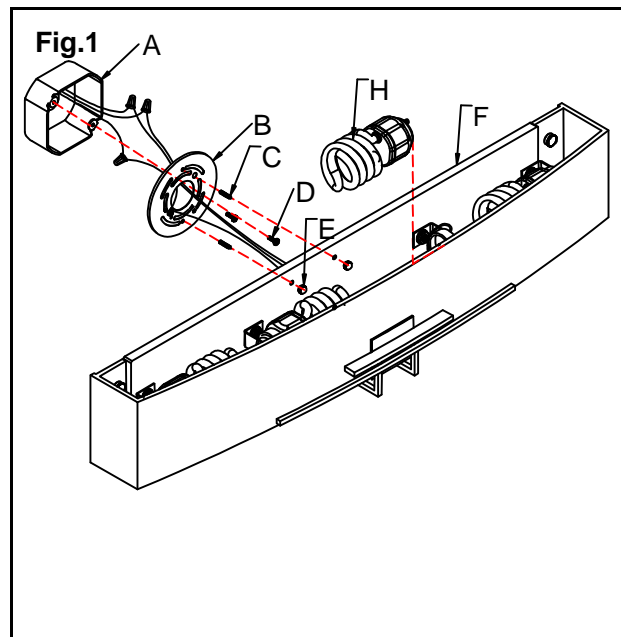

Fig. 2
CONNECTING THE WIRES (Fig. 2)
5. At this point, connect the electrical wires as follows; connect the black wire from the fixture to the black house (hot) wire. Connect the white wire from the fixture to the white (neutral) house wire. Make sure all wire nuts are secured. You may wrap the connections with electrical tape. If your outlet has a ground wire (green or bare copper), connect fixture's ground wire to it. Otherwise connect fixture's ground wire directly to the circular strap using the green screw provided. (Fig. 2)